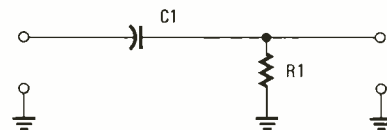

FIG. 3
4. The circuit in Fig. 3 is called: